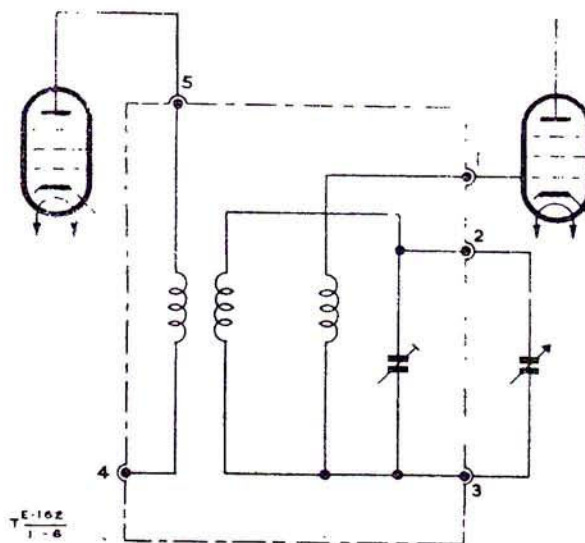

Fig 6 - Gain compensation,
19. In the 14-30Mc/s band a different arrangement has been employed. The inter-stage R.F. transformer has three windings (see Fig 6). The primary winding is closely coupled to the tuned secondary, being interwound with it and having the same number of turns. A grid winding which consists of a large number of turns of fine wire is also closely coupled to the secondary. This grid winding is resonant outside the low frequency end of the band and compensates for variations in the impedance of the tuned circuit. Gain compensation is not employed on the 50-100kc/s band.